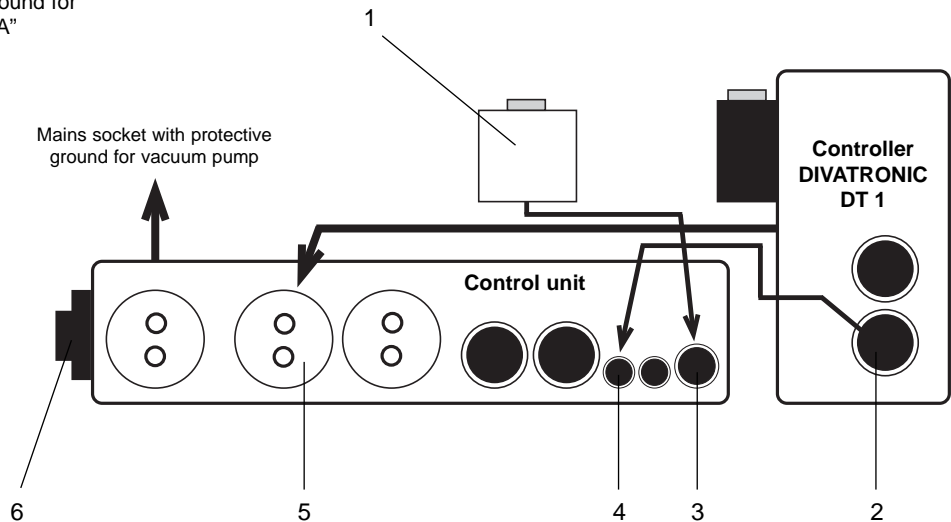

Fig. 10 Connections between DIVATRONIC DT 1 controller and control unit DIVAC system SC 06 L - 1.2 L - 2.2 L (Euro version)
**Key to Fig. 10**
Connect DIVATRONIC DT 1 controller connection SOL.2 to the connection “V.IN. 1” on the control unit using the supplied cable (see Fig. 10).
Plug the mains plug of the DIVATRONIC DT 1 controller into the corresponding mains socket on the control unit (see Fig. 10).
Insert the plug on the cable for the pump relief valve into socket “PRV” on the control unit (see Fig. 10).
Insert the mains connector of the pump into the marked mains socket on the control unit (see also Fig. 10).